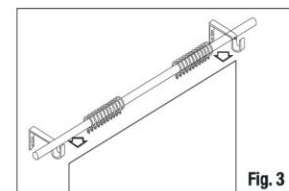

Fig. 3
6. Drop the pole onto the brackets and centralise over the window (Fig.3) Adjust the length of the pole as required.